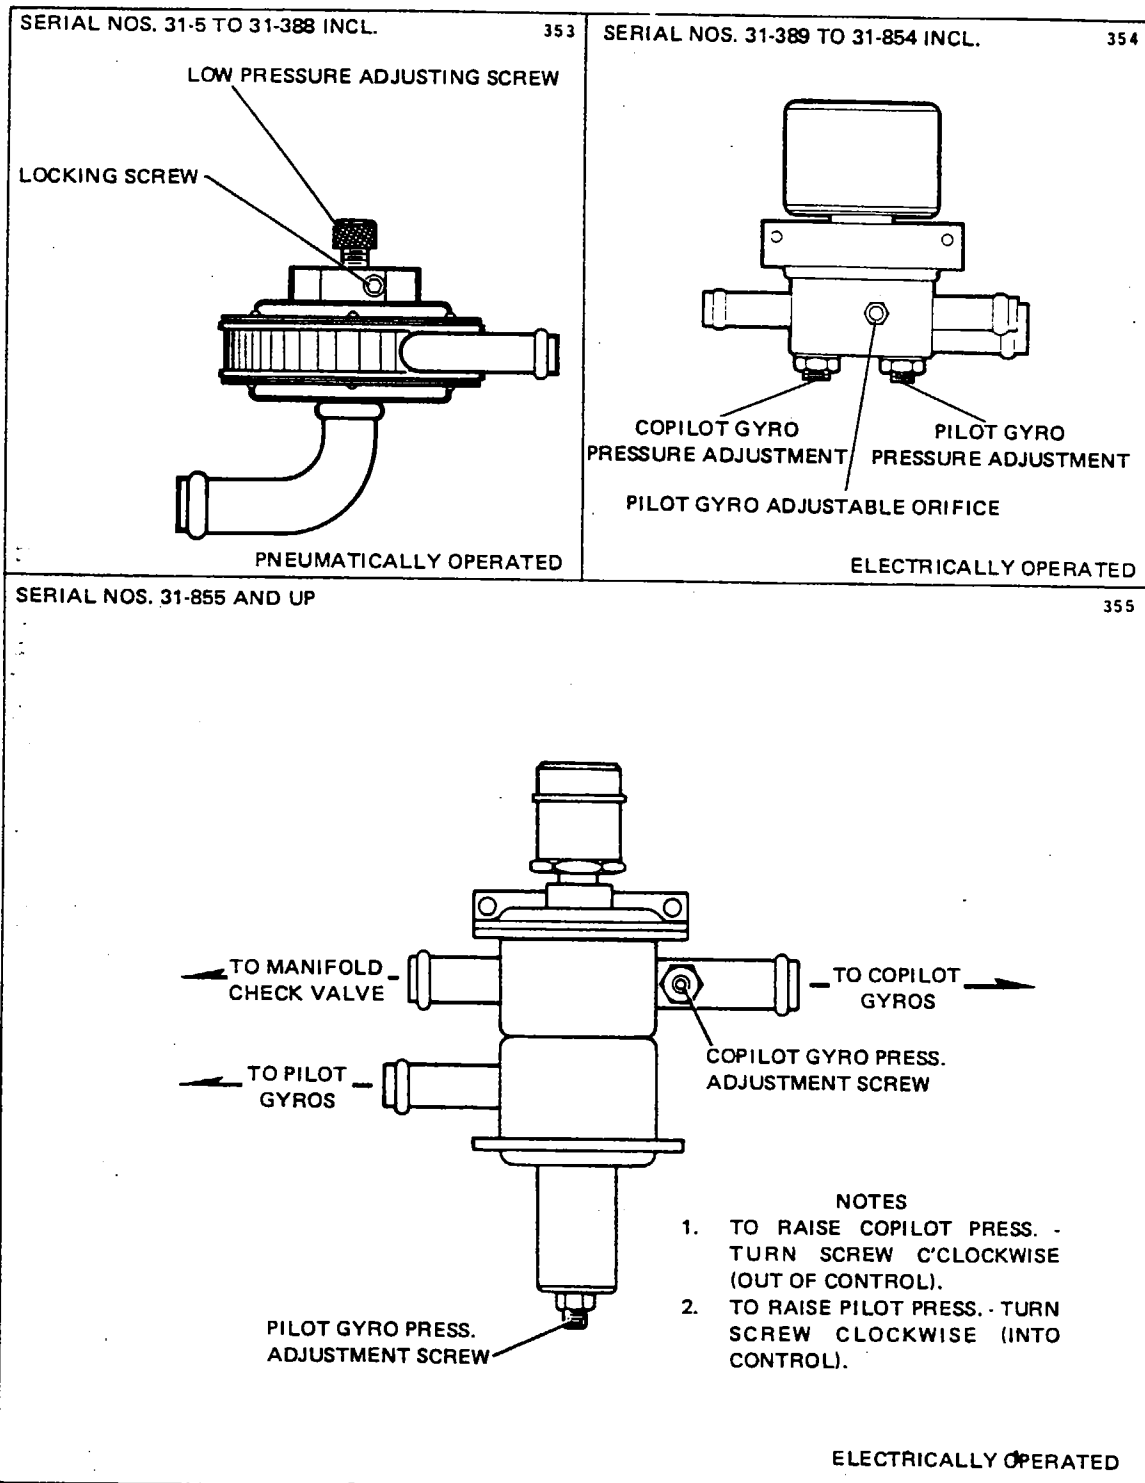

Figure 10-7. Pneumatic Relay
1. To adjust the pneumatically controlled relay valve (refer to Figure 10-7), loosen the locking screw on the side of the relay valve with an Allen wrench and turn the adjustment screw to obtain a correct reading with engines operating at 2200 RPM.
2. To adjust the electrically controlled relay valve for serial numbers 31-398 to 31-854 inclusive (refer to Figure 10-7), use the following procedure:
3. To adjust the electrically controlled relay valve for serial numbers 31-855 and up (refer to Figure 10-7), use the following procedure:
g. Should the gauge not indicate the correct reading, adjust the pneumatic relay valve located forward of the instrument panel above the control pedestal. (Refer to Figure 10-7.) To adjust the relay valve, loosen the locking screw on the side of the relay valve with an Allen wrench, and turn the adjusting screw to obtain a correct reading. This adjustment may be made with engines operating.
1. To adjust the non-electrically controlled relay valve (Refer to Figure 10-7), loosen the locking screw on the side of the relay valve with an Allen wrench and turn the adjustment screw to obtain a correct reading with engines operating at 2500 RPM.
2. To adjust the electrically controlled relay valve (Refer to Figure 10-7), use the following procedure: